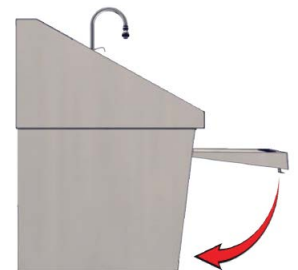

Figure 28: Door should rotate freely on hinges
5. The knee panel door should rotate freely on its hinges. Rotate the door back down on its bottom latch to close it (Figure 28).